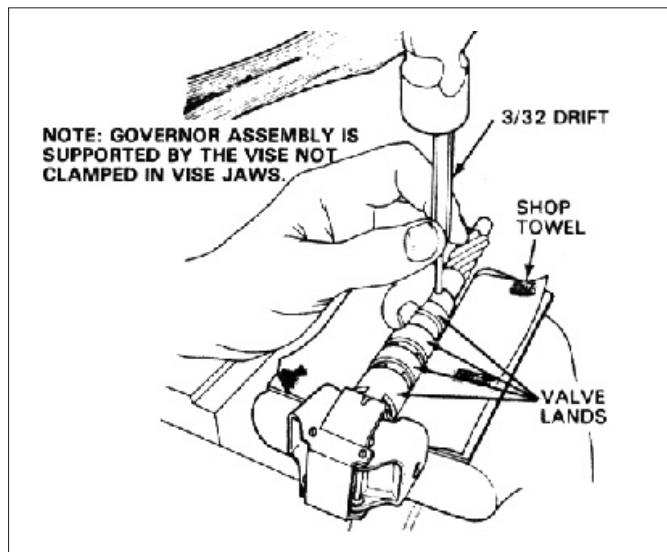

Figure 1
1. Support the governor assembly on a vise, or equivalent and remove the 3/32 drift (Figure 1).